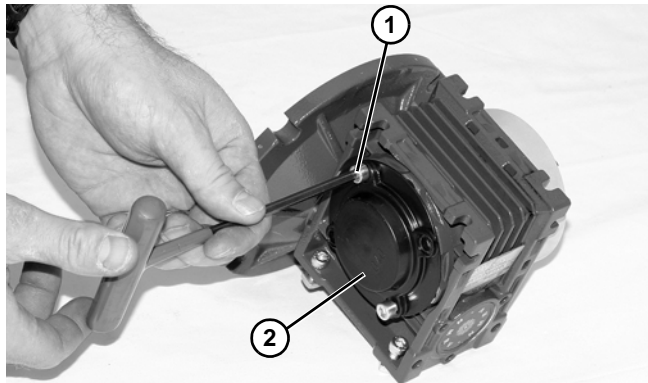

Figure 18
5. Remove two (2) screws (Figure 18, item 1) and detach output shaft cover (Figure 18, item 2).